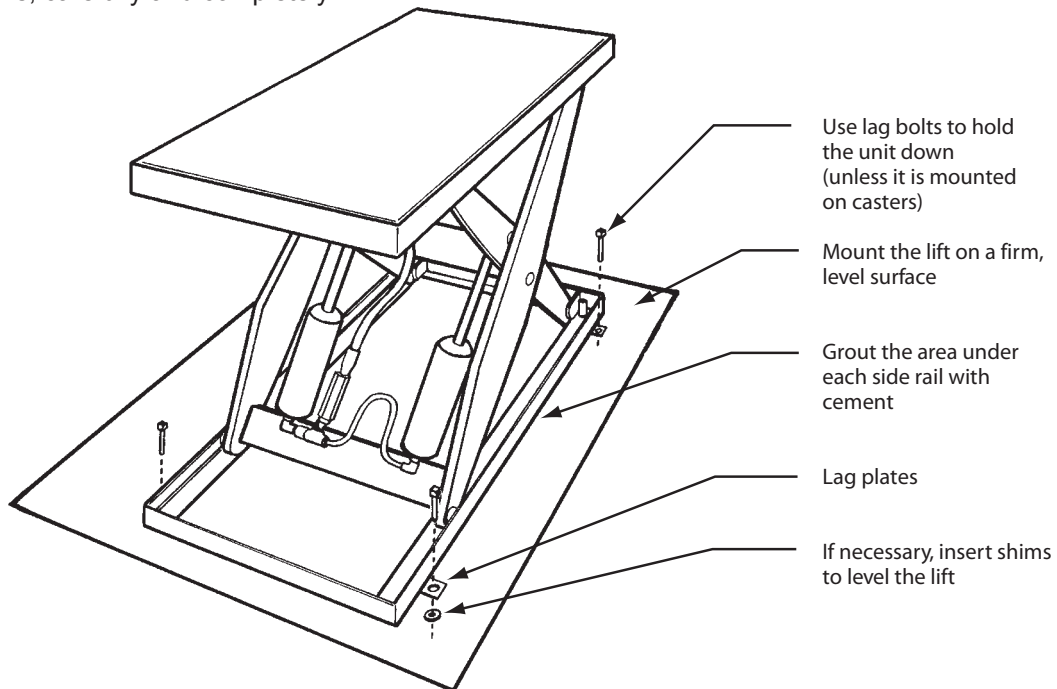
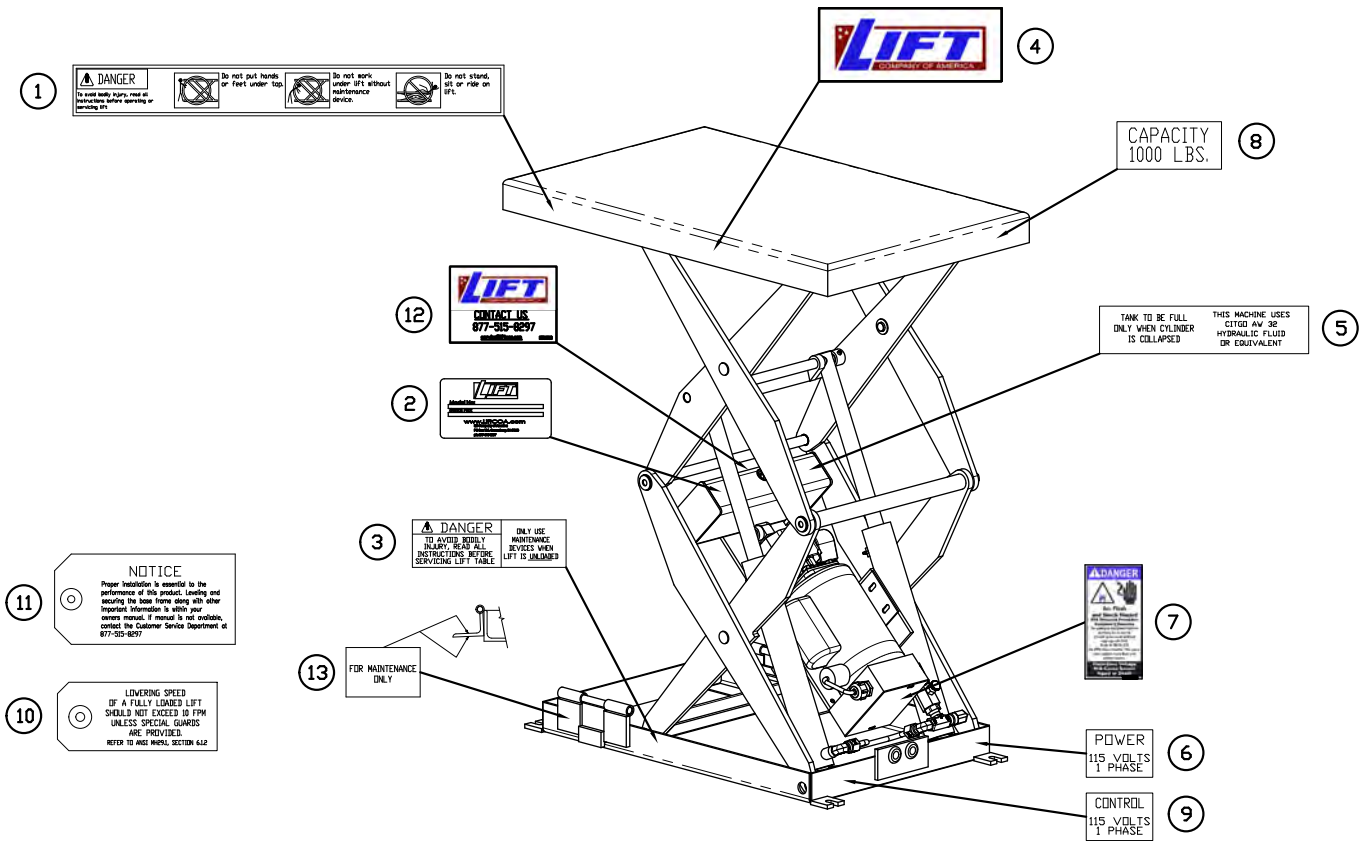

Figure 2 – Mount the Lift Securely (CBD)
Figure 7 – Labels and Precautionary Markings
Remove the shipping material and unskid the lift. On the front of this manual, write down the model number, serial number, and date the lift is placed in service. You can find the model number and serial number on the name plate as shown in Figure 7. You cannot see the name plate without lifting the table top. Use an overhead crane or fork truck to do this. Lift the hinged end of the table top. Move the lift into position, supporting the base of the lift. Install the lift as shown in Figure 2.
Once you are sure the lift is positioned correctly, mark the locations of the lag holes in the base frame, and drill the holes. If necessary, insert metal shims to level the base of the lift. Insert and tighten the lag bolts to secure the lift. Grout under the base rails to prevent vibration and distortion of the base frame, as shown in Figure 2. If the lift is lowering too quickly or too slowly, you can change the “down speed” by adjusting the flow control. (optional feature)
Locate the lift on a firm, flat surface as shown in Fig. 2. Stationary lifts should be lagged to the floor. The floor lock should be engaged on portable lifts.
The precautionary labels on the lift are there for your safety. If you find that the labels are worn or missing, or have been painted over, ask Maintenance to replace the labels before you use the lift. The labels are shown in Fig. 7
• The warning labels on the lift are there for the safety of the operators. See Figure 7. If the labels are worn or missing, or have been painted over, replace them before releasing the lift for operation.
Be sure all of the warning labels are in position and legible. The labels are shown in Figure 7. **The warning labels are intended to protect your workers.** If the labels are missing, or if they have been painted over, replace them.